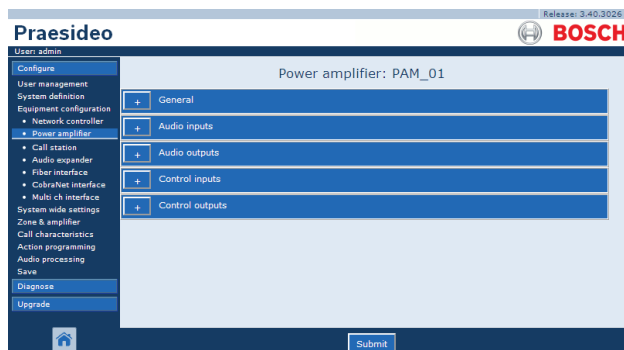

figure 43.10: Configure power amplifier, step 2
- 2 Click the name of the power amplifier that must be configured. A screen similar the one in figure 43.10 appears in the main frame of the web interface.